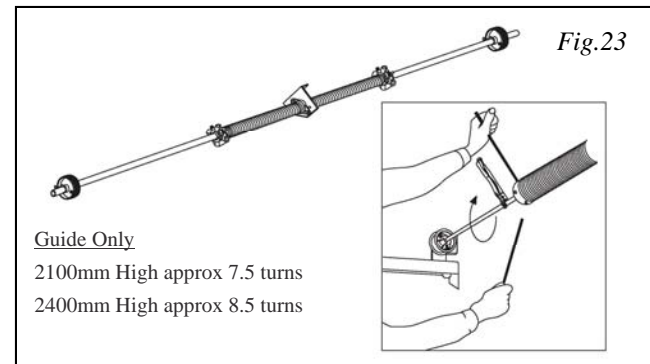

Fig.23
**WARNING: Always ensure that your body and face are to the side of the winding bars. Refer Fig. 23.**